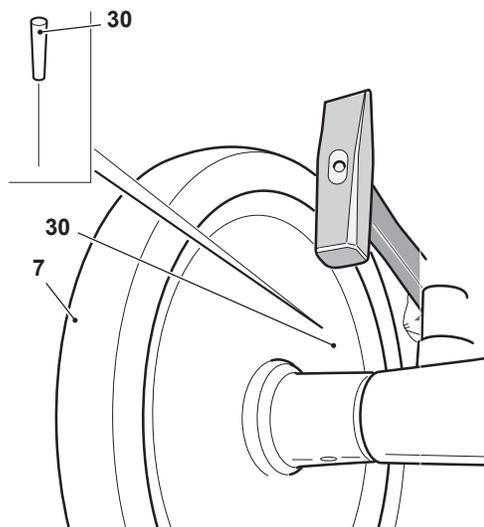

Figure 9-4
6. Use a hammer to insert the taper pin (30) fully into the hole of the flywheel shaft (31) (Figure 9-4).